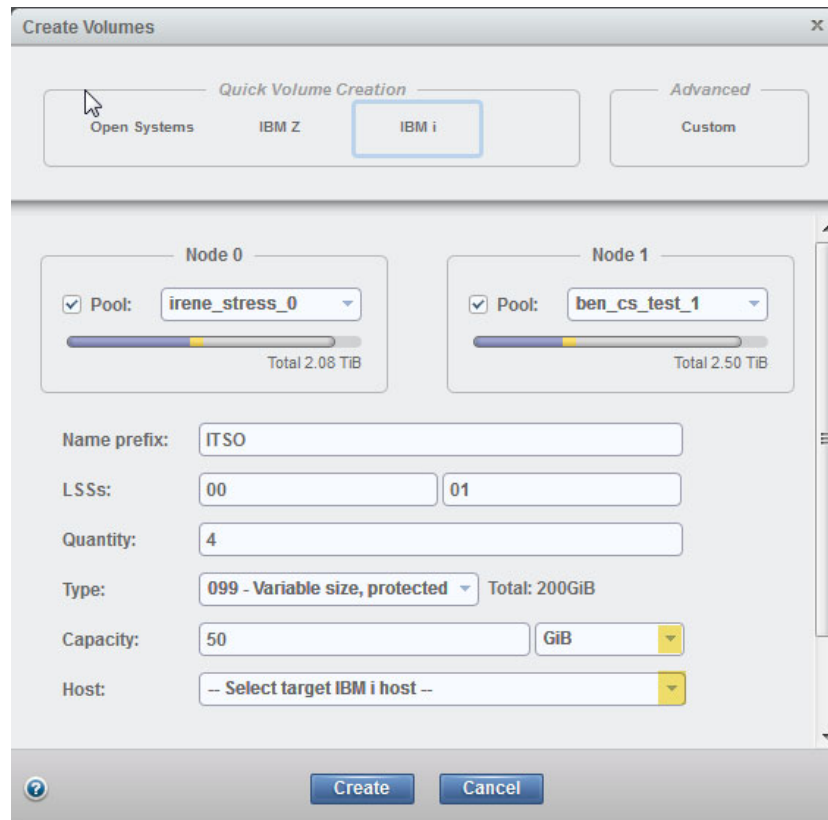

Figure 11-52 Creating IBM i Volumes
Note: With the release 8.3 of the DS8880 microcode, the storage administrator of IBM i is able to create variable size IBM i volumes as shown in Figure 11-52 on page 319.
8. You can map the volumes to a defined IBM i host on the same window. See Figure 11-52 on page 319.